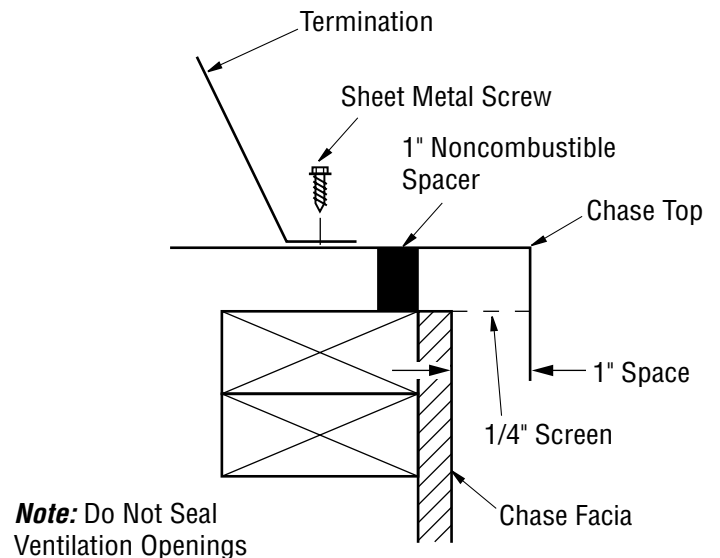

Figure 21 - Securing Termination to Chase Top Flashing with Sheet Metal Screws
6. Place termination cap over opening and slip stainless steel inner pipe into stainless steel chimney section. Lower termination assembly until cap rests evenly over flashing hole. Secure cap at each corner with sheet metal screws (see Figure 21).